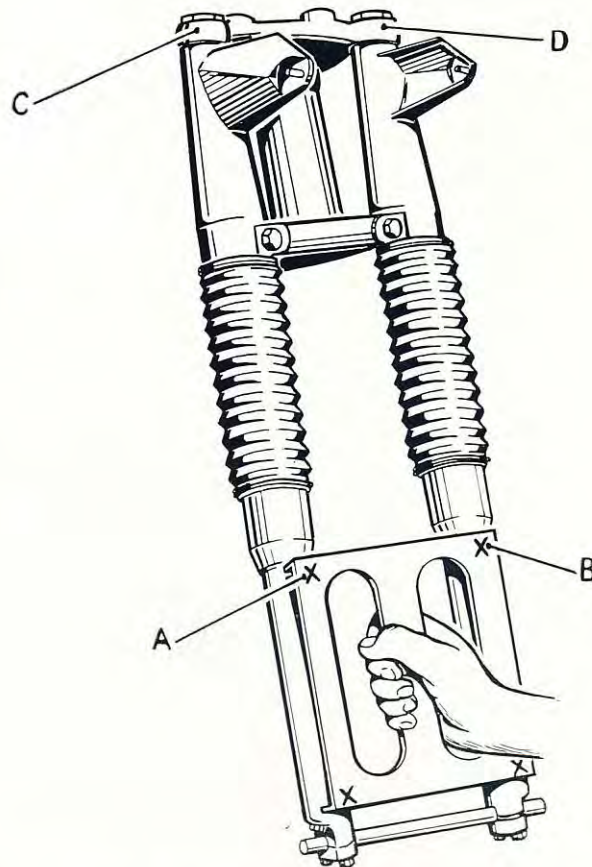

FIG. E18. *Checking fork alignment with service tool No. 61-6025.*
Hold the alignment gauge firmly against the fork legs as shown in Fig. E18, and check that the gauge contacts at all four corners. If the gauge does not make contact at points (A) then this indicates that point (B) is too far forward. To remedy this slacken off the two bottom yoke pinch bolts and the stem sleeve nut pinch bolt and give point (C) a sharp blow using a hide-mallet or a hammer used in conjunction with a soft metal drift.